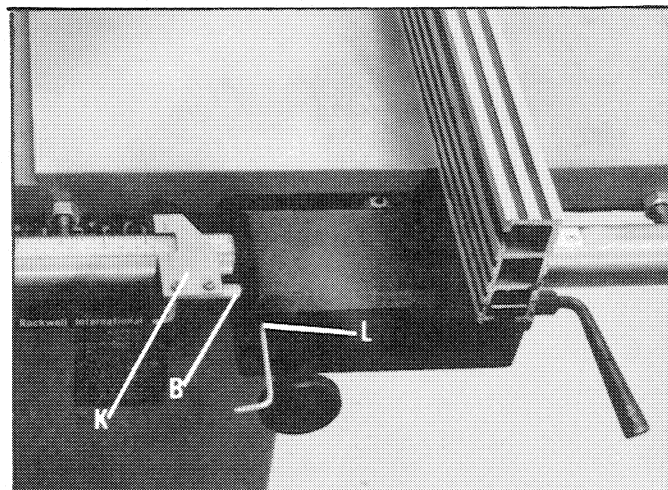

Fig. 21
8. Insert rod of pointer assembly (K) Fig. 21, in hole in fence body (B) and tighten set screw (L).